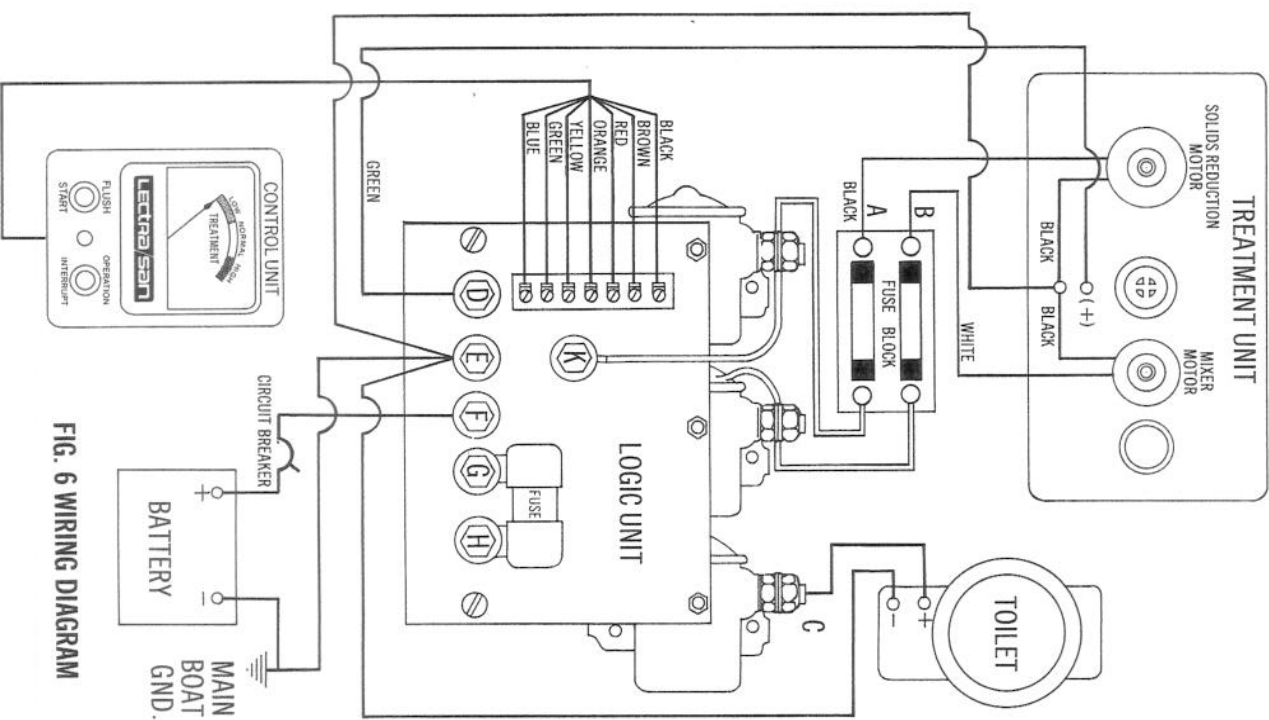

FIG. 6 WIRING DIAGRAM
Only **stranded** copper wire should be used. The specific sizes of insulated solderless ring and butt connectors which are supplied are listed on page 28. It is recommended that connectors be crimped with a Multipurpose Crimping Tool, ABC-500 (ETC Inc., Cleveland, Ohio) or equivalent. The threads on lug D (Figure 6) are different from those of the other lugs, so care must be taken not to mix the nuts.
Attach and secure the **black** #10 wire with ring connector to lug A on the fuse block, the **white** wire to lug B on the fuse block, and the **green** wire to lug D on the board. See Figure 6.
connector to the ends of the **black** and **white** wires. Slip the rubber boot onto the **green** wire. Crimp a solderless ring connector to the bare end of the wire. Attach and secure the **green** wire with ring connector to the (+) lug on top of the Treatment Unit. Press rubber boot over (+) lug. See Figure 6. Crimp the bare end of the orange wire from the solids reduction
b) Attach and secure each colored wire to the proper color-coded terminal on the terminal board as shown in Figure 6. The bare wire ends slip between the gripping plates and are not secured directly to the screws.
During the treatment cycle the Models 12 and 24 VDC LECTRA/SAN will draw about 50 amps of current for the two minute operating period. This is only 1-1/2 amp hours of battery power. The Model 32 VDC requires even less current. The entire system is protected by a 50 amp fuse and the two motors are independently fused. It is recommended that the power supply wires from the battery be connected to a switchboard having 50-60 amp rated circuit breaker. See Figure 6 on page 8.
- e) Check the alignment of all wires in the logic box and make sure all wires are attached to the proper lugs and all nuts tightened. See Figure 6.